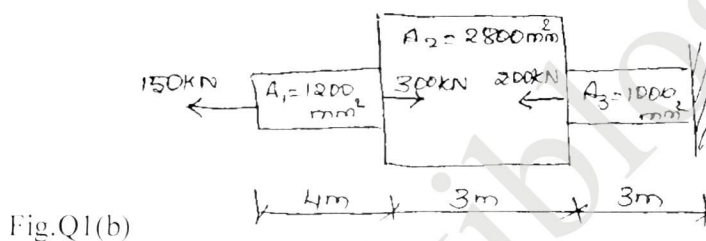

Fig.Q1(b)
b. Evaluate the deformation of the bar, given, $E_1 = E_2 = E_3 = 200 \text{ GPa}$, refer Fig.Q1(b). (10 Marks)